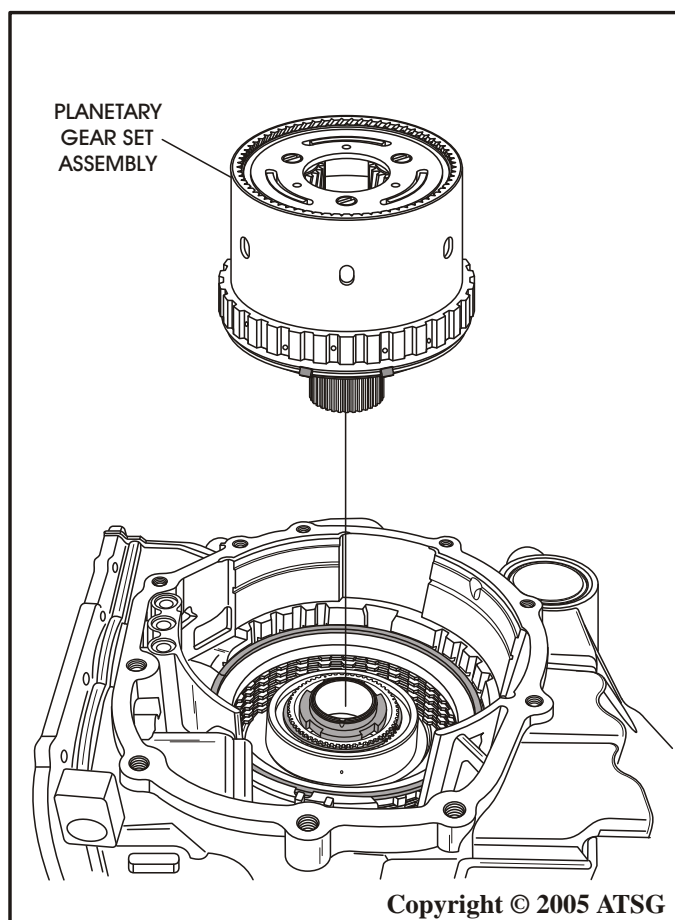

Figure 49
50. Remove the planetary gear set and low sprag assembly from transaxle case, as shown in Figure 49.
- Note:** *F4A51 unit with sprag illustrated in Figure 49, sprag not used in all models.*